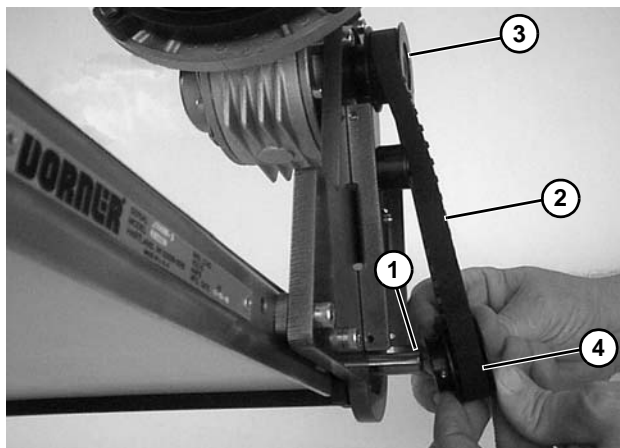

Figure 17
6. Install key (Figure 17, item 1).
7. Wrap timing belt (Figure 17, item 2) around driven pulley (Figure 17, item 3) and drive pulley (Figure 17, item 4). Install driven pulley (Figure 17, item 3) onto conveyor shaft.